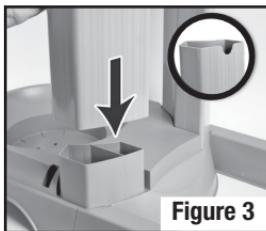

Figure 3
**2. Attach Upright Pedestals.** Insert Left Upright Pedestal and Right Upright Pedestal onto corresponding posts on base. **Locate "U" cutouts on top to ensure bottom end fit is correct. The "U" cutouts will face away from the base.** Push down to secure (**Figure 3**). Fit will be tight, press firmly in place.